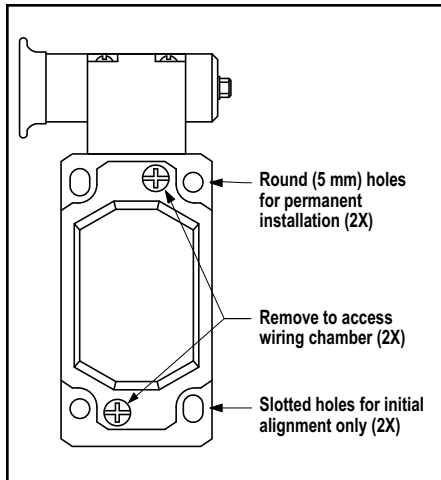

Figure 1. Features
**NOTE:** The slotted holes in the switch body must **ONLY** be used for alignment during installation (see Figure 1). The round 5 mm holes (only) must be used for permanent mounting to prevent loosening or displacement of the actuator and the switch body. Only M5 (#10) screws (customer supplied), should be used.